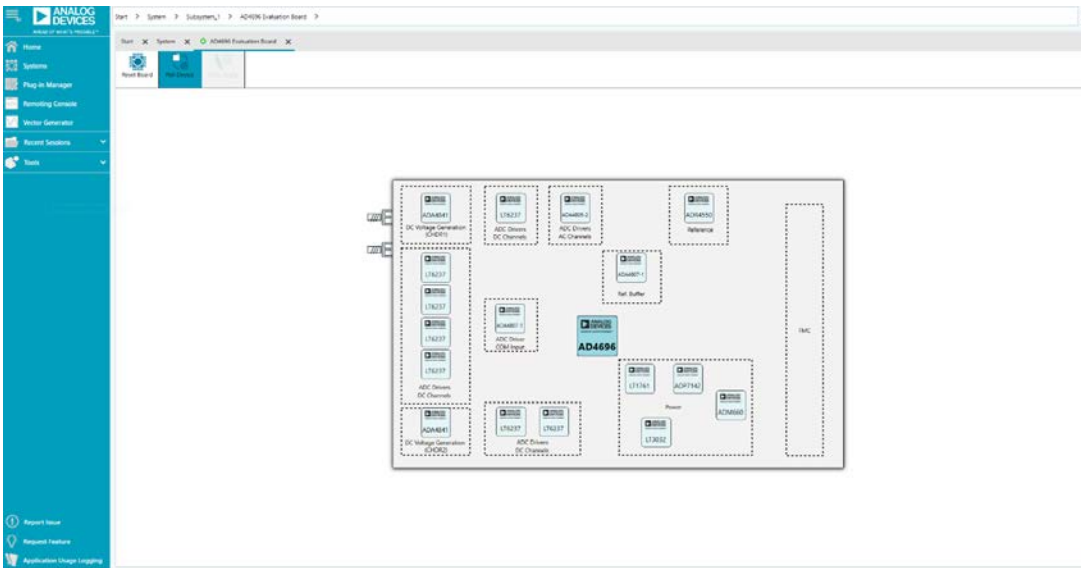

Figure 14. Evaluation Board View
3. Double click the **AD4696** chip icon to display the AD4696 chip view (see Figure 14).